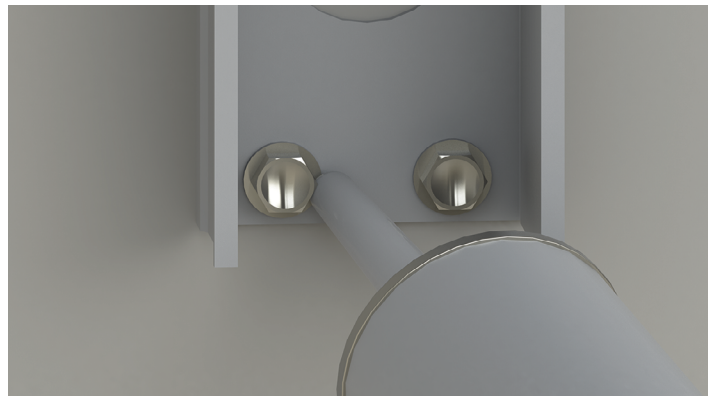

Fig.13
1. Seal all fastener locations and wire penetrations to protect against water intrusion (**Fig.13**).